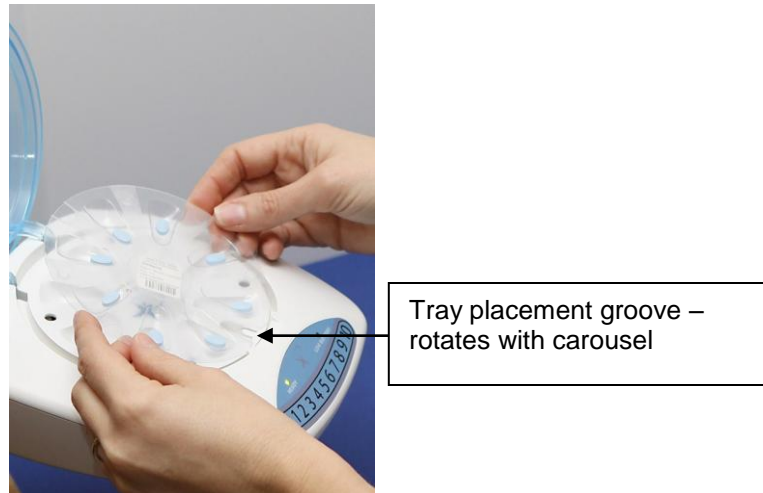

Figure 17: Loading the Medication Tray
4. To load the medication tray (Figure 17), slip the groove in the tray under the groove in the dispenser wheel and align the four tray projections into the holes on the dispenser wheel. Gently press down to align the medication tray properly.